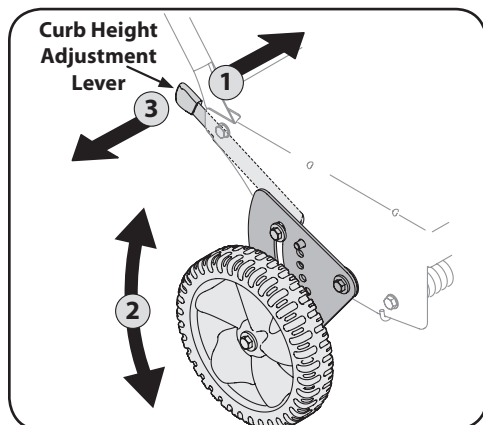

Figure 4-4
1. Lower the right rear wheel by moving the curb height adjustment lever slightly to the left. See Figure 4-4.
3. Release the curb height adjustment lever to lock the wheel in position. See Figure 4-4.